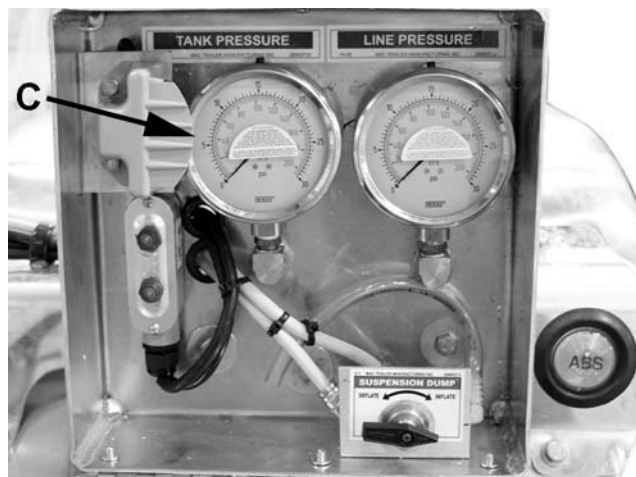

Figure 5-3 – Tank Pressure Gauge Reading Zero
4. Verify tank pressure gauge (C) reads zero pressure. See Figure 5-3.